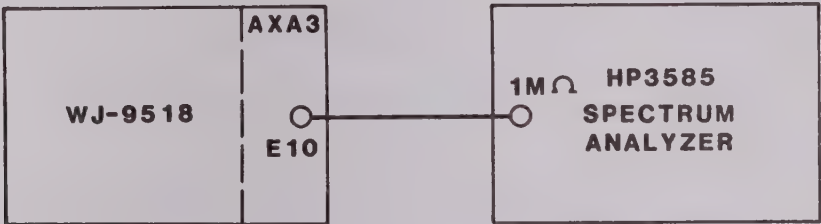

Figure 4-10. 1st LO Spur Adjustment Equipment Connections
7. Connect the test equipment as illustrated in **Figure 4-10**.